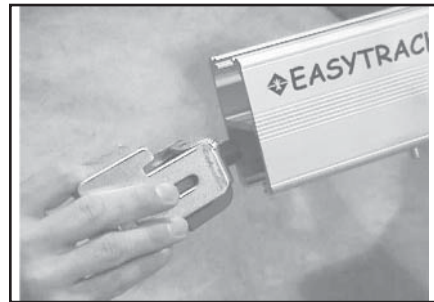

Figure 12
- Place the hook into each end of the parallel rails (Figure 12).